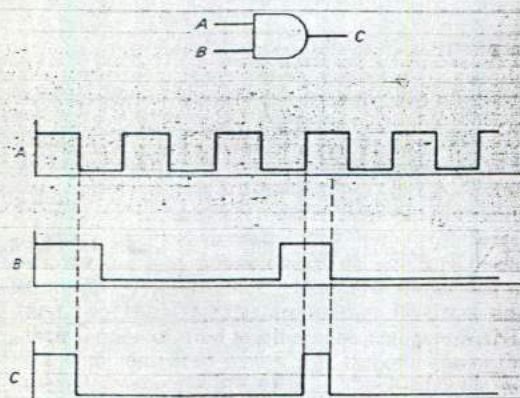
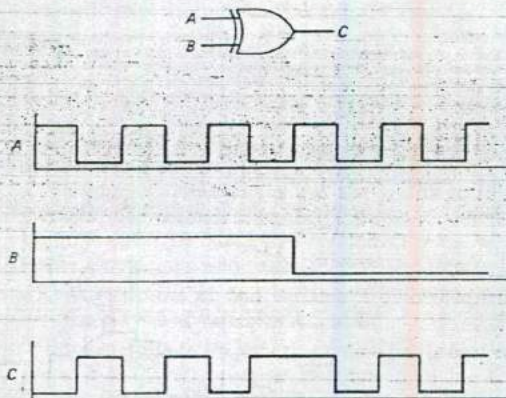

Fig. 11-12 Timing diagram.
Fig. 11-13 Exclusive OR timing diagram.
operation. A logic circuit is *dynamic* if it is undergoing change. Look at Fig. 11-12, which shows some timing diagrams for a two-input AND gate. Timing diagrams relate dynamic conditions among inputs and outputs. Input A is shown as a square wave. Input B is a rectangular wave of low duty cycle. Output C is high only during those periods when both A and B are high. Now look at Fig. 11-13; it shows the timing diagram for an exclusive OR gate. Note that the output waveform is the inverse of input A when input B is high. When B is low, the output is in phase with input A. Verify this operation by looking at the exclusive OR truth table if necessary. The exclusive OR gate is sometimes called a *programm-*
- Refer to Fig. 11-12. What will waveform C look like if waveform B is constant at logic 1?